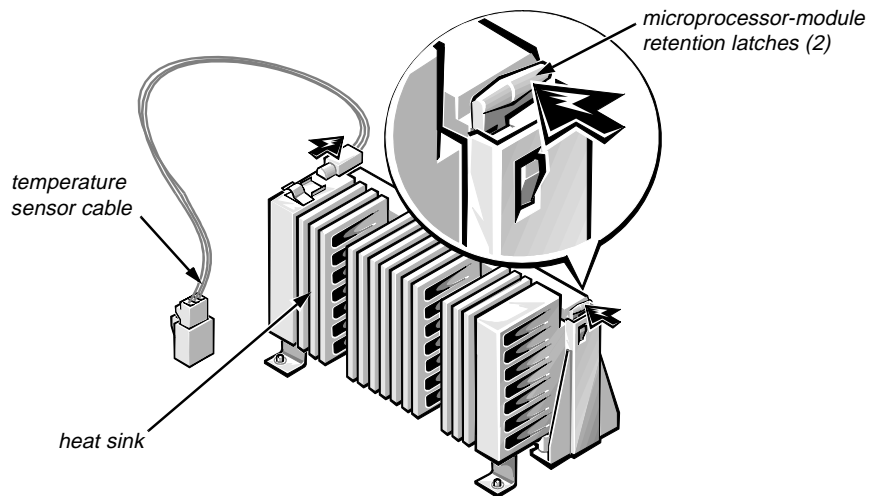

Figure 4-20. Removing a Microprocessor Module From a Retention Bracket
- b. Disconnect the microprocessor temperature sensor cable from the heat sink, but not from the system board (see Figure 4-20).
- c. Press inwards on the microprocessor-module retention latches until they snap into a retracted position (see Figure 4-20).